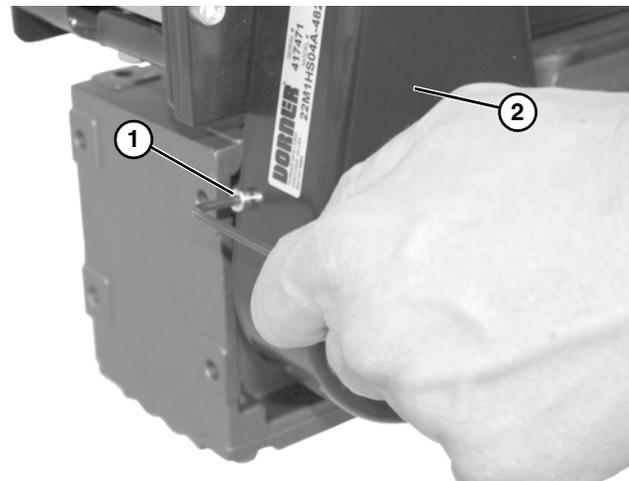

Figure 23
2. Remove four (4) screws (**Figure 23, item 1**) and remove cover (**Figure 23, item 2**).